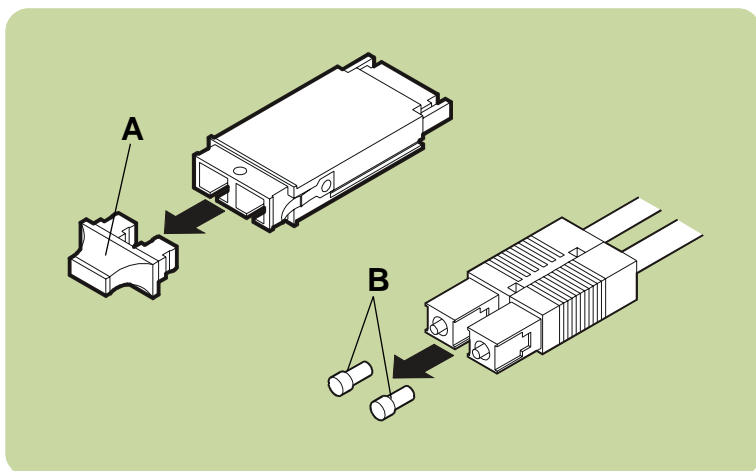

Fig. 39. Removing caps from GBIC and fibre optic connectors
3. Remove the Gigabit Interface Converter (GBIC) protective cap (Fig. 39, A) and fibre optic connector protective caps (B).